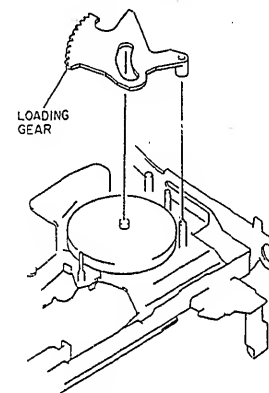

Fig. 2-88
1. Pull out the loading gear from the chassis. (See Fig. 2-88)